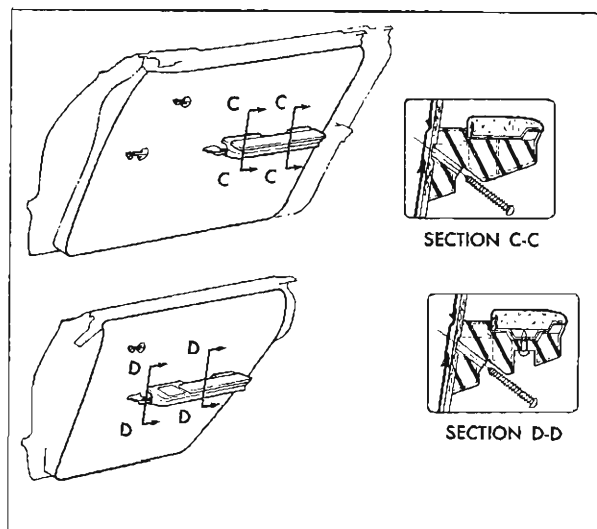

Fig. 14—Door Arm Rest Assemblies
1. Remove screws securing arm rest to door inner panel and remove assembly from door (fig. 14).